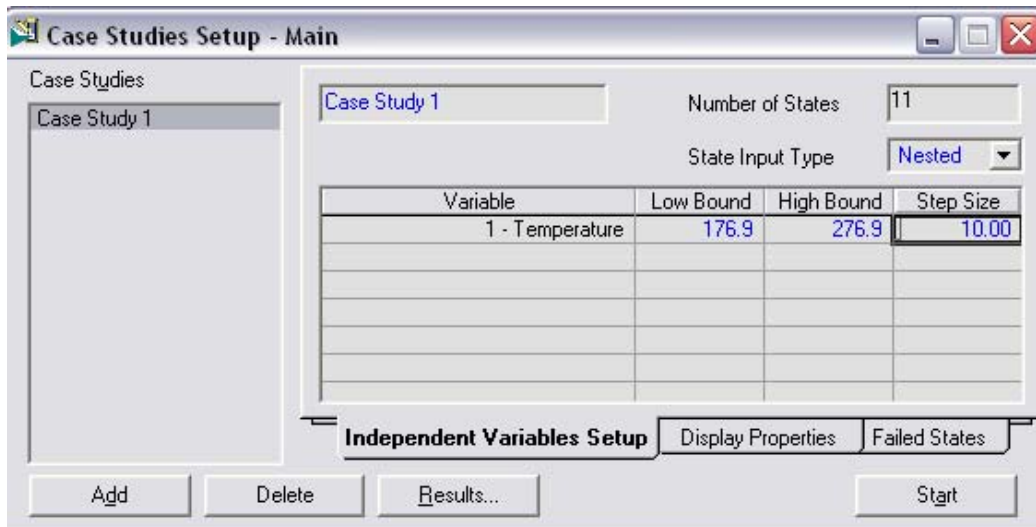

Figure 2-12
6. Click the **View** button and complete the page as shown in the Figure 2-12. (Low Bound: 450 K; High Bound: 550 K; Step Size: 10 K)